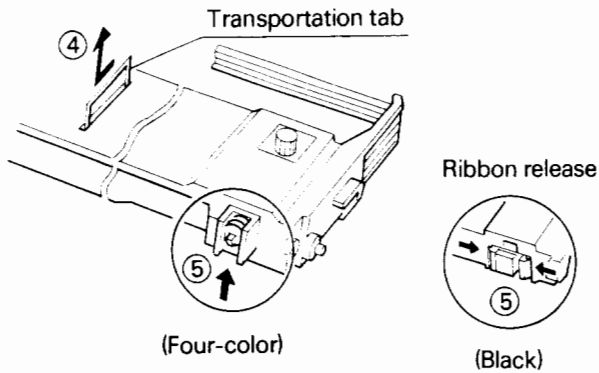

Figure 2-1 Ribbon cassette (1 of 2)
- Pull the transportation tab out of the ribbon cassette (Figure 2-1).
- Grasp the ribbon release, between your thumb and forefinger, and push in the direction of the arrows to close the ribbon drive rollers (Figure 2-1).